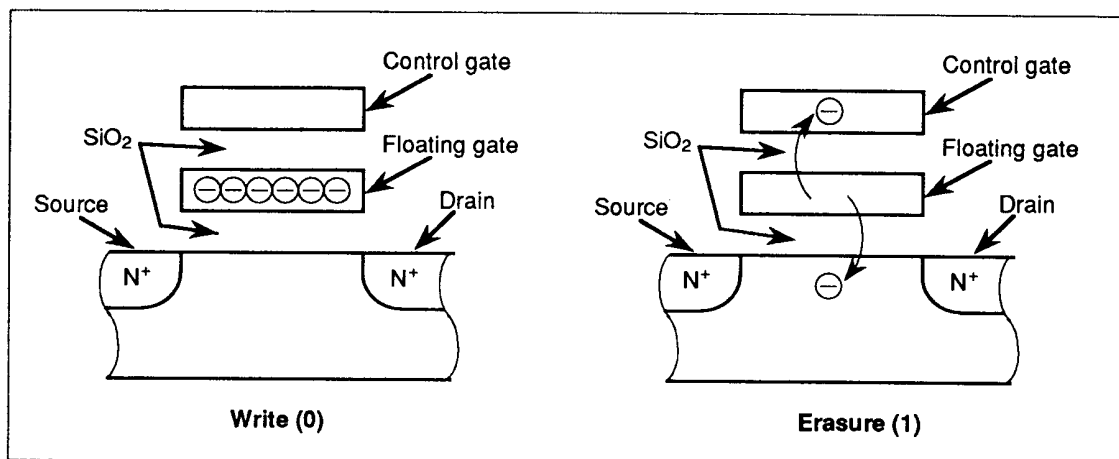

Figure 44 Cross-Sections through EPROM Cell
**Principles of Programming/Erase:** A memory cell in a ZTAT microcomputer is the same as an EPROM cell: it is programmed by applying a high voltage between its control gate and drain to inject hot electrons into its floating gate. These electrons are stable, surrounded by an energy barrier formed by an SiO2 film. The change in threshold voltage of a memory cell with a charged floating gate makes the corresponding bit appear as 0; a cell whose floating gate is not charged appears as a 1 bit (figure 44).